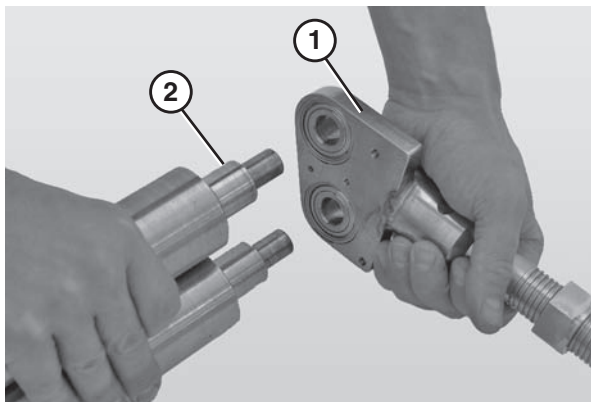

Figure 85
6. Slide the nose bar shafts (**Figure 85, item 1**) off the nose bar spindles (**Figure 85, item 2**).